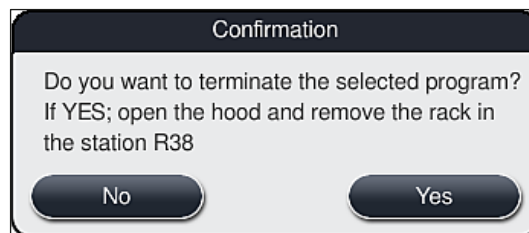

Fig. 91
- In the following information message (→ "Fig. 91"), confirm the program termination with the **Yes** button or return to the process status display with **No**.
The information in the message (→ "Fig. 91") absolutely must be adhered to.